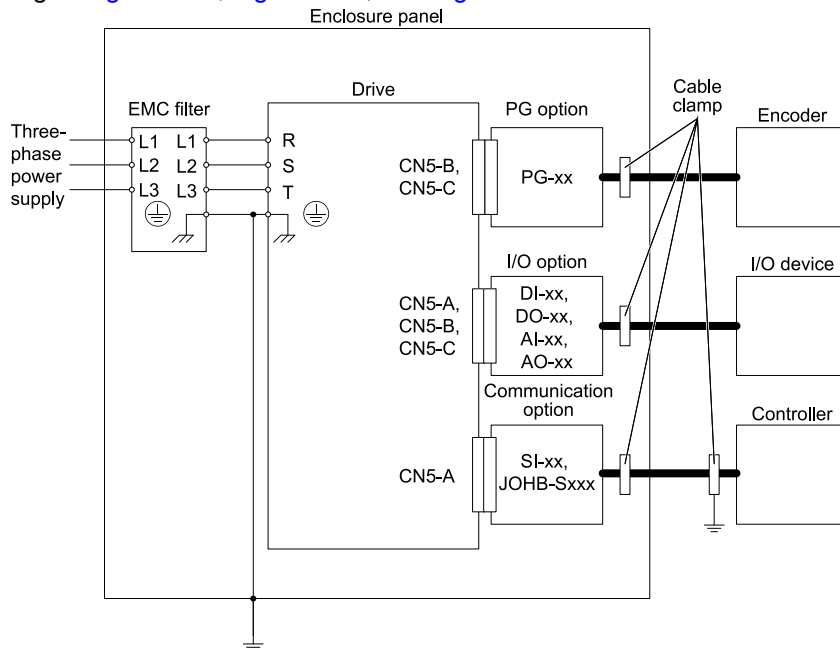
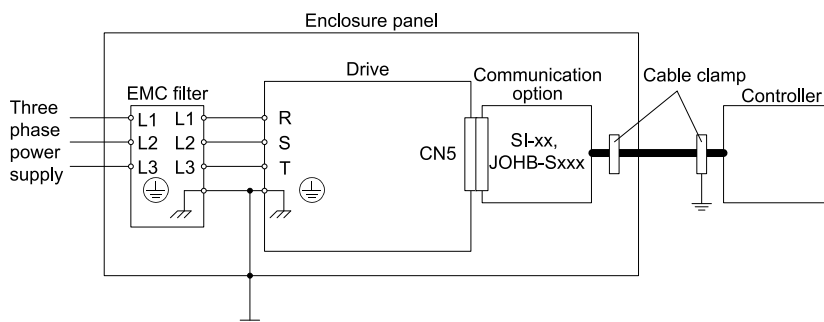
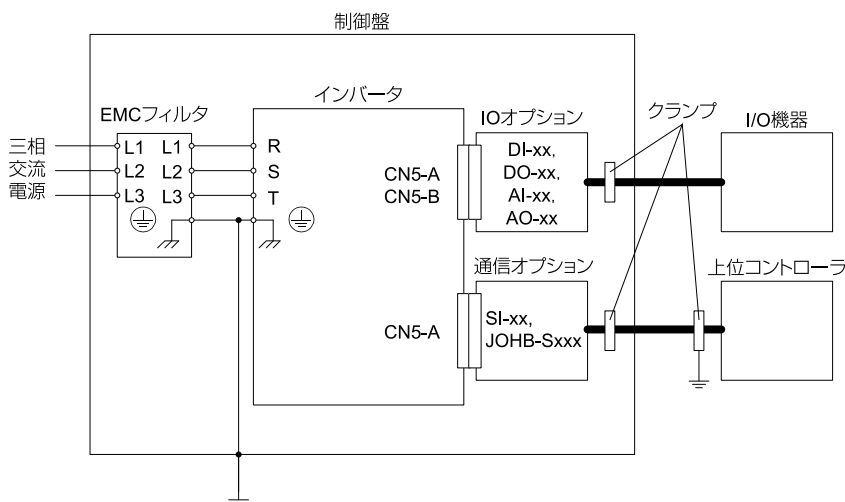

Figure 17.2 Option Installation for CE Compliance: 1000-Series, GA700, GA800, CR700
Figure 17.3 Option Installation for CE Compliance: GA500, HV600
Figure 17.4 Option Installation for CE Compliance: FP605
2. Keep wiring as short as possible and ground the largest possible surface area of the shield to the metal panel according to Figure 17.2, Figure 17.3, and Figure 17.4.